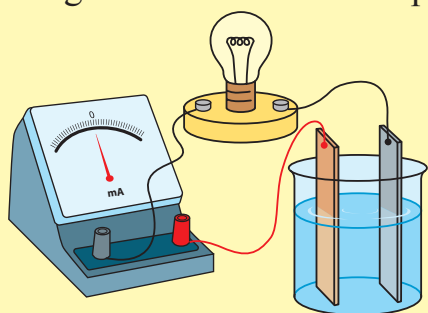

Figure 3.4 ▲
- Connect the centre-zero ammeter to one end of the bulb as shown in the Figure 3.4 and observe.